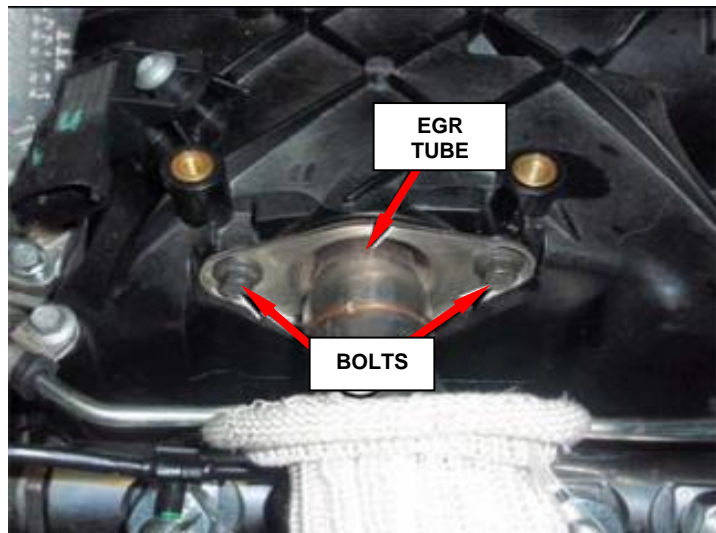

Figure 11 – EGR Tube Mount at Intake
12. Remove the EGR bolts (2) at the intake manifold (Figure 11).